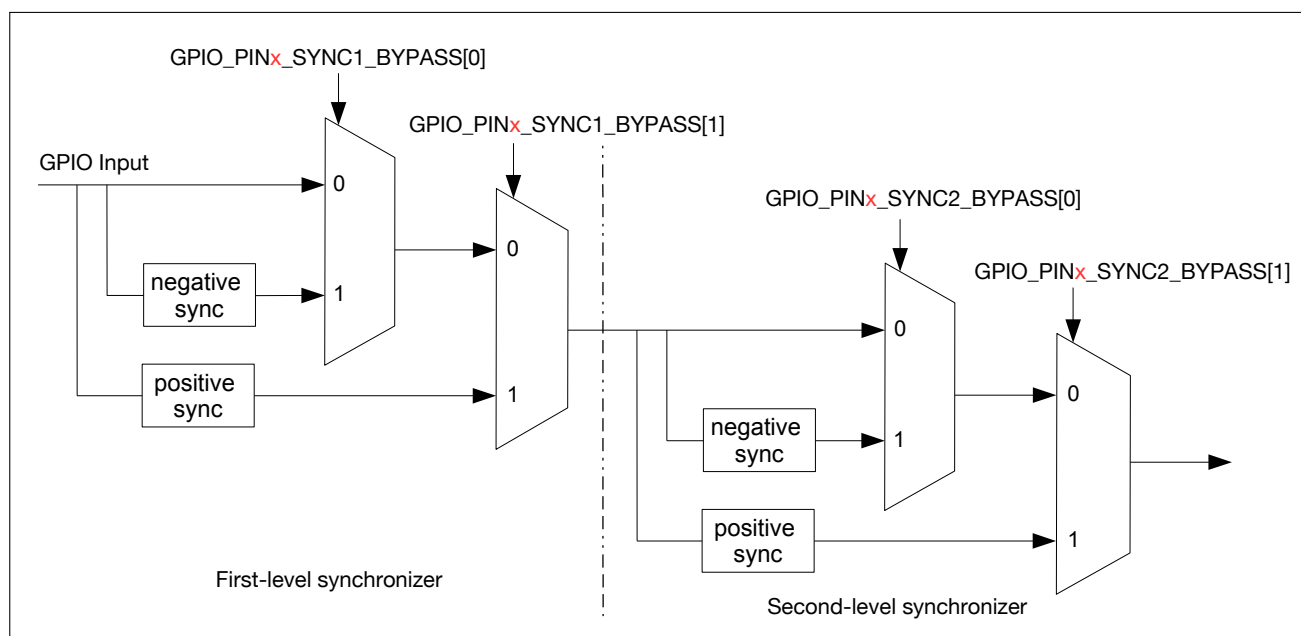

Figure 5.4-1. GPIO Input Synchronized on Rising Edge or on Falling Edge of HP IO MUX Operating Clock
Only HP GPIO matrix supports this signal synchronization function. Figure 5.4-1 shows the functionality of GPIO SYNC. In the figure, negative sync and positive sync mean GPIO input is synchronized on falling edge and on rising edge of HP IO MUX operating clock respectively.
The synchronization function is disabled by default by the synchronizer. But when an asynchronous peripheral signal is connected to the pin, the signal should be synchronized by the two-level synchronizer (i.e., the first-level synchronizer and the second-level synchronizer as shown in Figure 5.4-1) to lower the probability of causing metastability.
- Set `GPIO_PINx_SYNC1_BYPASS` to enable input signal synchronized on rising edge or on falling edge in the first-level synchronization, see Figure 5.4-1.
- Set `GPIO_PINx_SYNC2_BYPASS` to enable input signal synchronized on rising edge or on falling edge in the second-level synchronization, see Figure 5.4-1.